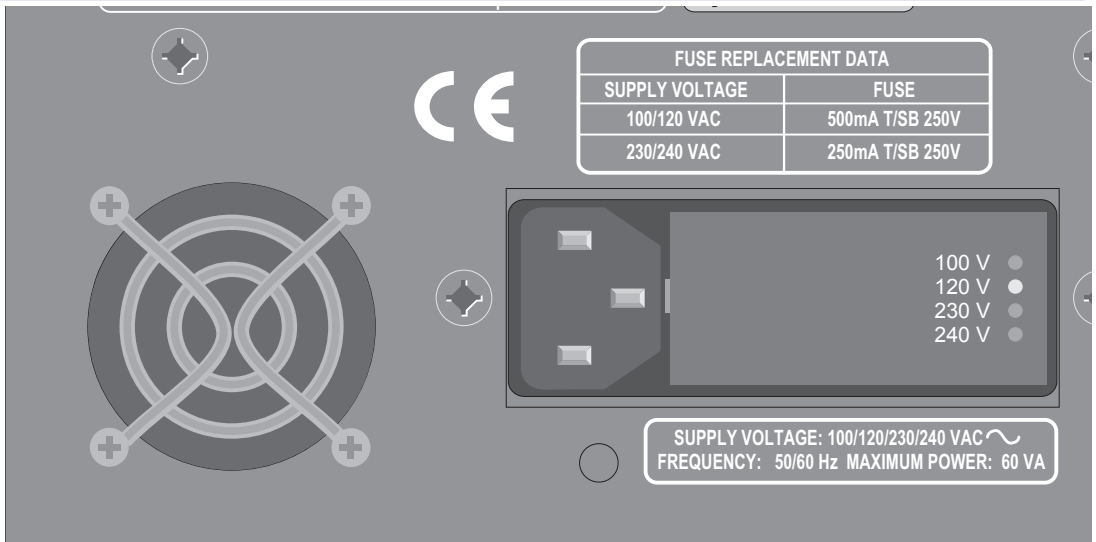

Figure A-1. Location of voltage indicators on rear panel
4. Replace fuses if necessary. Replace Cover, making sure that indicator tip is inserted in correct indicator hole for the selected line voltage (see Figure A-1 for location of indicator holes).